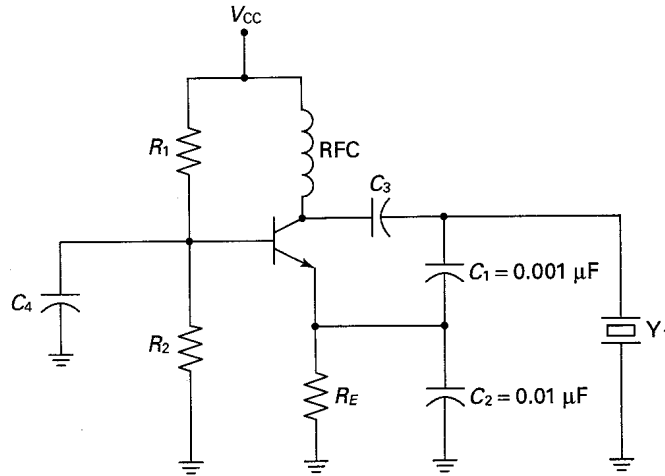

Fig. 2-34
- 2.40 Refer to Fig. 2-34. Calculate the feedback fraction  $B$ . *Ans.*  $B \approx 0.091$  or  $\frac{1}{11}$
- 2.41 In Fig. 2-34, does the feedback network provide a phase shift for the feedback voltage?